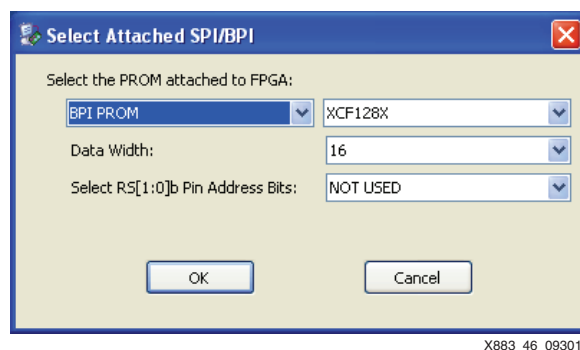

Figure 46: Select Attached BPI PROM
19. Use the default values shown in Figure 46 and click **OK**.